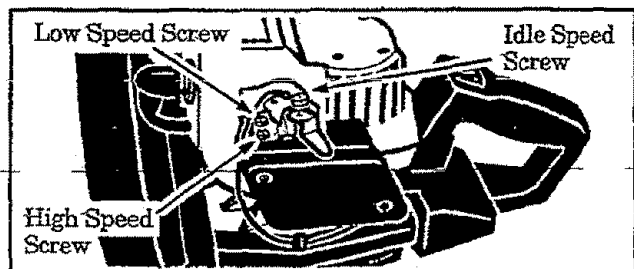

Figure 10
- a. Turn low speed screw and high speed screw (Figure 10) clockwise until they stop. Do not turn screws until they are tight as damage to needle seats can occur.
2. Adjust idle speed screw (Figure 10) until the engine continues to run without stalling and without blade moving.
- b. If the engine does not accelerate smoothly, turn the low speed screw (Figure 10) counterclockwise a small amount (no more than the width of the slot in the adjusting screw).
2. Turn the low speed screw (Figure 10 ) slowly clockwise until the speed starts to drop. Note this position.